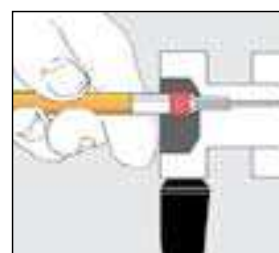

Figure 1 To reform the needle seal, push the eraser end of a pencil against the needle port.
1. If fluid leaks out of the needle port only while loading the loop (i.e., while pushing down on the plunger of the syringe), the problem is most likely that the needle seal or the needle port fitting in the loop filler port is not gripping the syringe needle seal tightly enough. Tighten the needle seal grip by pushing with the eraser end of the pencil on the needle port (See Figure 1). The tightening reduces the hole diameter of the needle seal and port fitting.